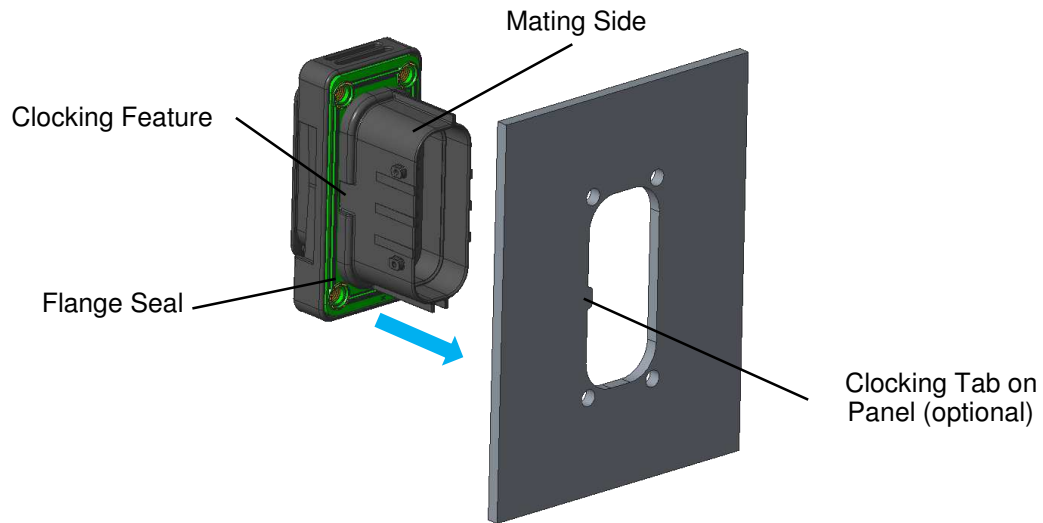

Figure 15
1. STRIKE Series receptacles may be mounted to a panel as shown in Figure 15. A clocking feature on the housing may be used to orient the connector on the panel, but the panel cutout must contain the proper tab in order to properly utilize this feature. Refer to STRIKE Customer Drawings (SRK02-MDX-32A-001 and SRK02-FLX-64A-001) for panel cutout information. Ensure that the flange seal is properly seated on housing and insert mating side of receptacle through the panel cutout. 32-pin receptacle is shown as an example. Use the same method to install the 64-pin receptacle.